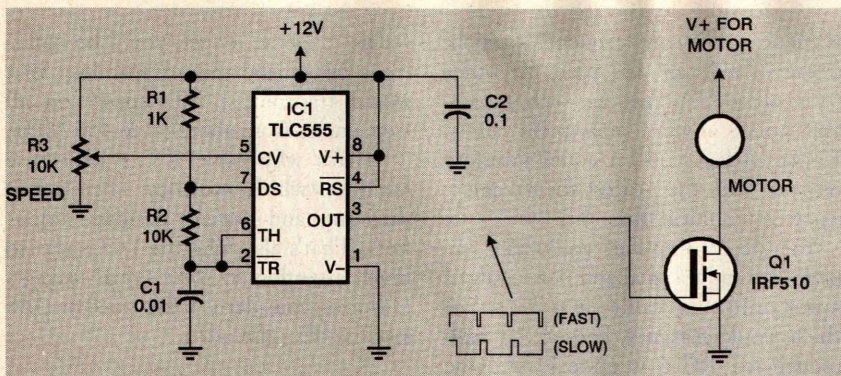

FIG. 5—IN THIS PULSE-WIDTH MODULATOR CIRCUIT, R3 is used to vary the width of the output pulses, and hence the speed of the motor.
**A** A motor-speed control circuit that you can probably adapt for your purposes is shown in Fig. 5. In the prototype, we used an IRF510 and a small